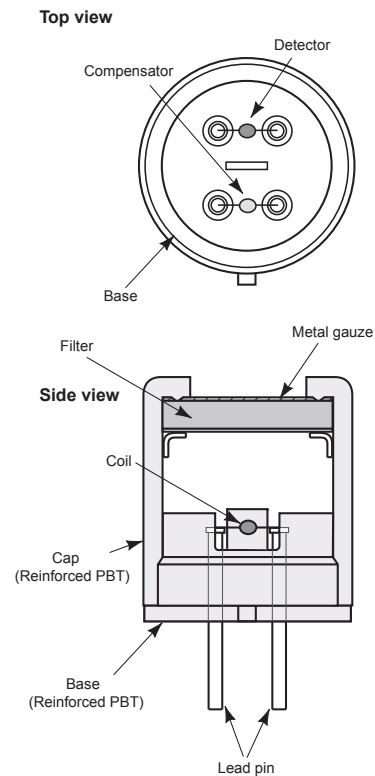

Fig. 1 - Sensor structure
Figure 1 shows the structure of TGS6810-D00. The sensor is comprised of two elements: element (D) which is sensitive to combustible gases, and a reference element (C) which does not have sensitivity to combustible gases. The sensing element (D) is made of alumina doped with catalysts, while the reference element (C) is made of alumina. Both coils are made of Pt wire, and the wires of both elements (D) and (C) are connected to nickel pins No. 2 & 3 and No. 1 & 4 respectively. The sensor base and cap are made of reinforced Polybutylene Terephthalate (PBT). The upper opening in the cap is covered with a double layer of 100 mesh stainless steel gauze (SUS316). The TGS6810-D00 utilizes a zeolite filter inside the cap for reducing the influence of interference gases.